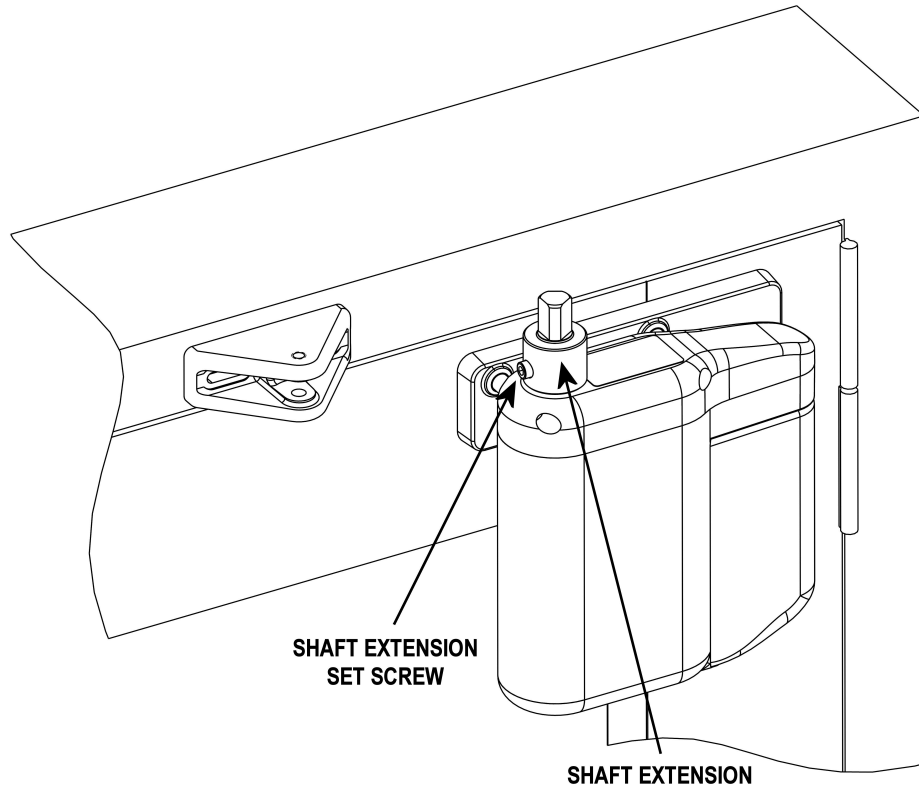

Figure 23
1. Refer to Figure 23, and **INSTALL** shaft extension onto operator shaft.